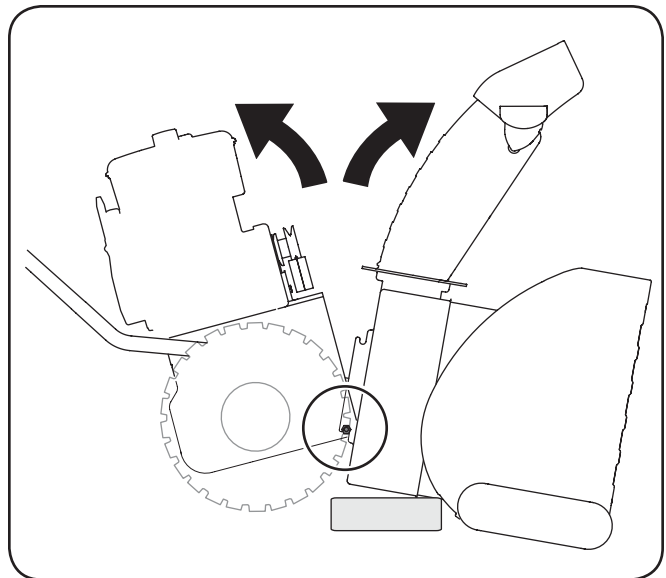

Figure 7-7
6. a. Block the impeller with a piece of wood to prevent it from spinning and use a 1/2" wrench to remove the hex screw and washer from the center of the pulley on the auger housing. See Figure 7-7.